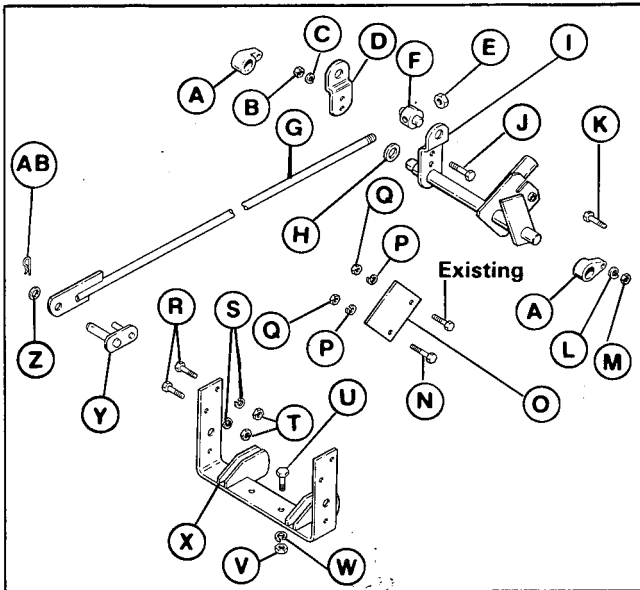

Figure 1.
1. Refer to figure 1 to identify parts in the kit. The reference letters are the same as figure 6.